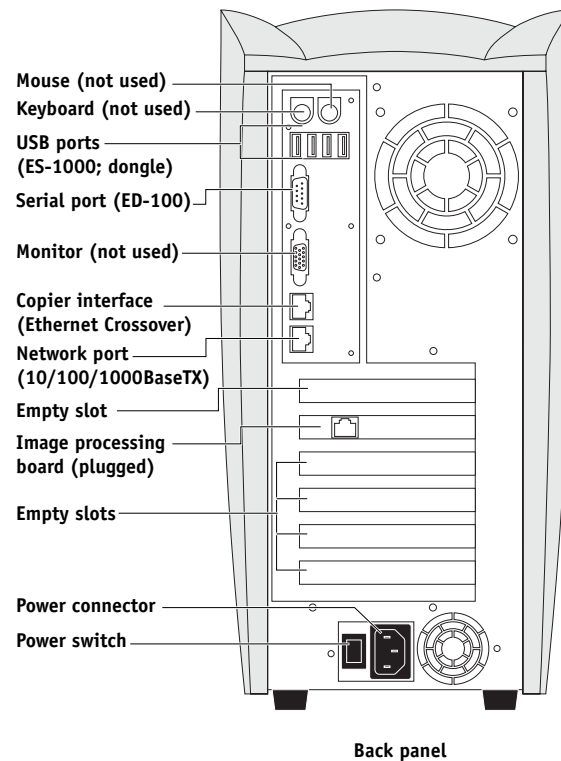

FIGURE 5-2 Back panel of the iR-M3
- All interface cables to the system are plugged into the proper connectors on the back panel of the iR-M3 (see Figure 5-2).